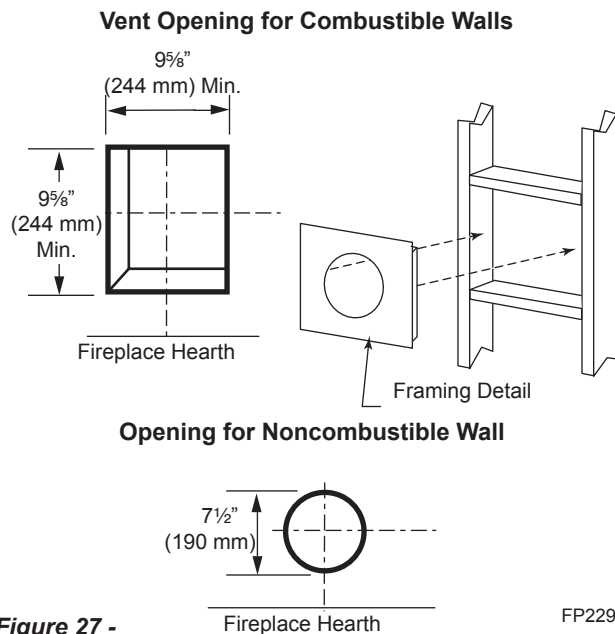

Figure 27 -
Locate vent opening on the wall. It may be necessary to first position the fireplace and measure to obtain hole location. Depending on whether the wall is combustible or noncombustible, cut opening to size. *Figure 27* (For combustible walls first frame in opening.)
Combustible Walls: Cut a 9 5/8" H x 9 5/8" W (244 x 244 mm) hole through the exterior wall and frame as shown. *Figure 27*
1. Establish vent hole through the wall. *Page 19, Figure 27*